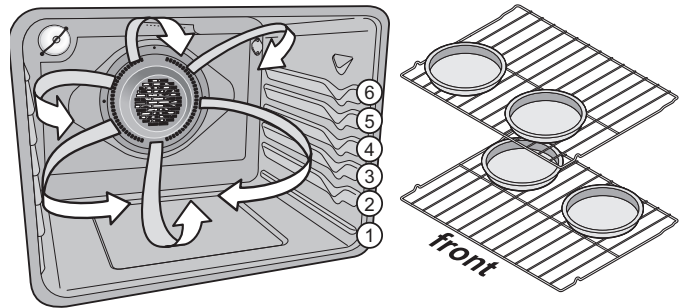

Figure 23: Pan spacing and oven rack positions
- When using 2 oven racks place racks in positions 3 and 5 for and position cookware as shown in Figure 23.